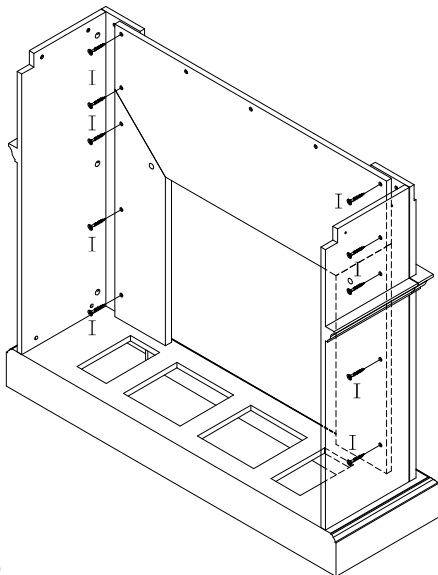

Figure 5
FIT TOP PANEL (1) ONTO FIGURE 5 THEN FASTEN ALL 6,7,8 WITH SCREWS (I). ALSO INSERT (I) WOOD SCREW INTO UPPER HOLES OF 2,3,4,5,6 PANELS TO CONNECT WITH TOP PANEL.